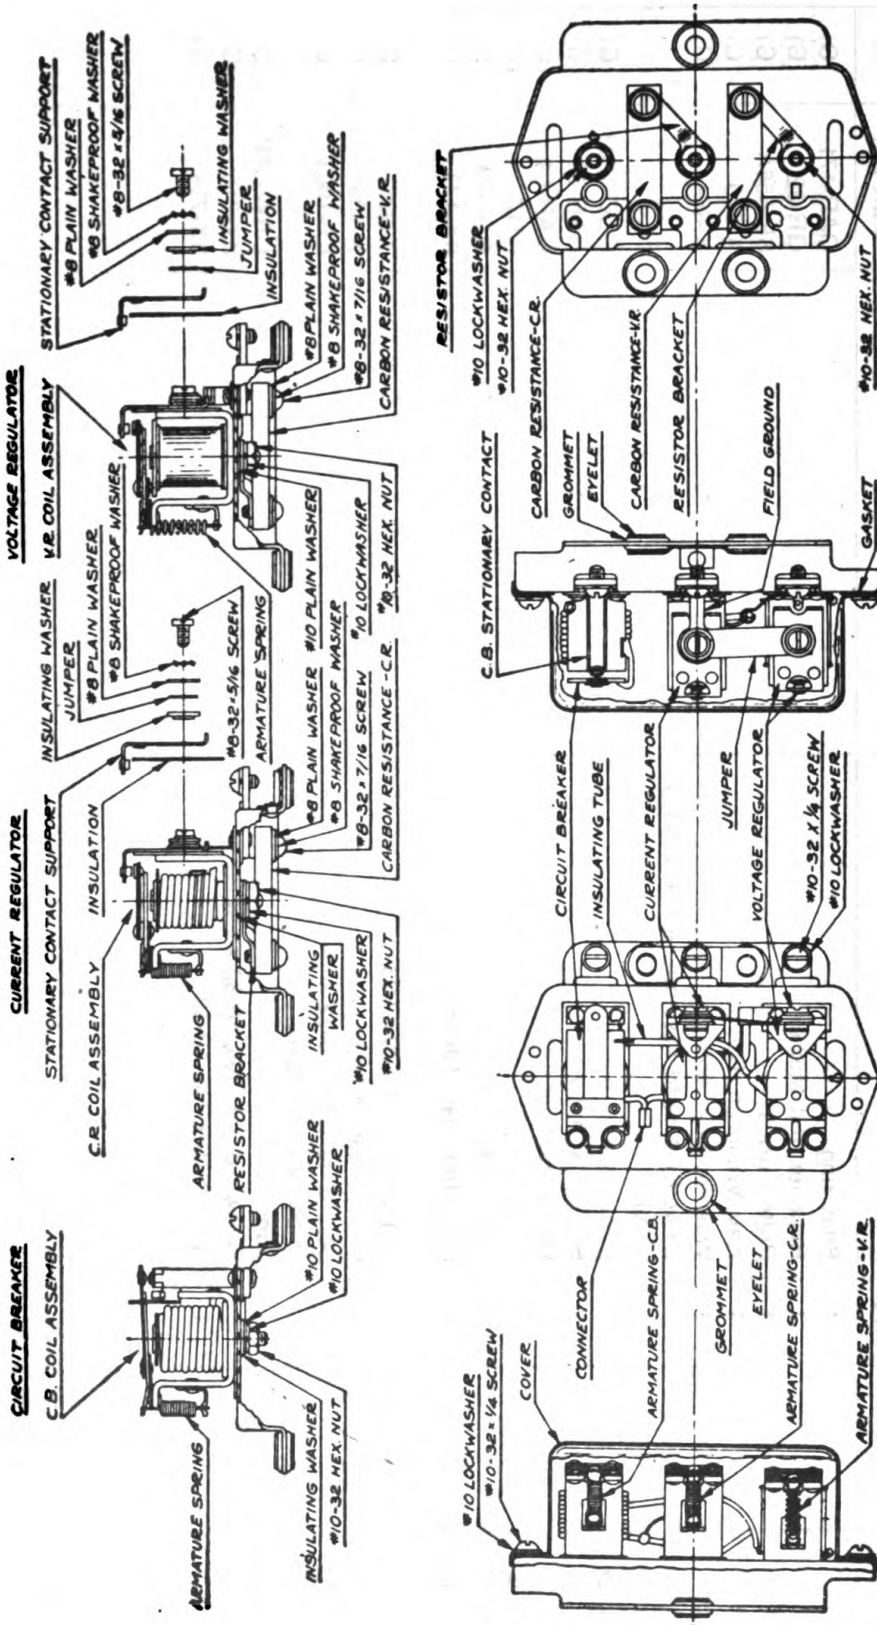

FIGURE 21—CIRCUIT BREAKER, CURRENT REGULATOR, VOLTAGE REGULATOR
h. Low Voltage Regulator (Figure 21).